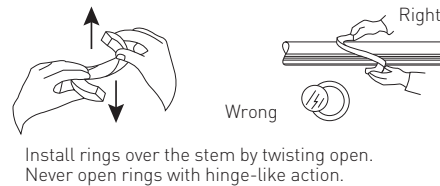

FIGURE 3
4. If the split form is used and it is not possible to slip the rings over the stem without opening the rings, install the rings over the stem by twisting open in an "S" fashion. Never open rings with hinge-like action. See Fig 3.